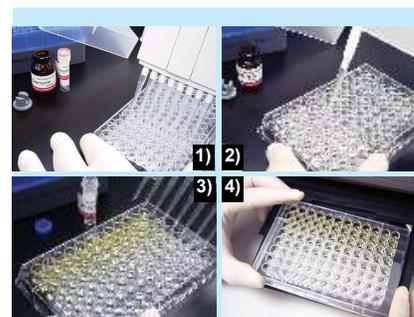

Fig. 3 Assay procedure
3. General Protocol (refer to Fig. 3)